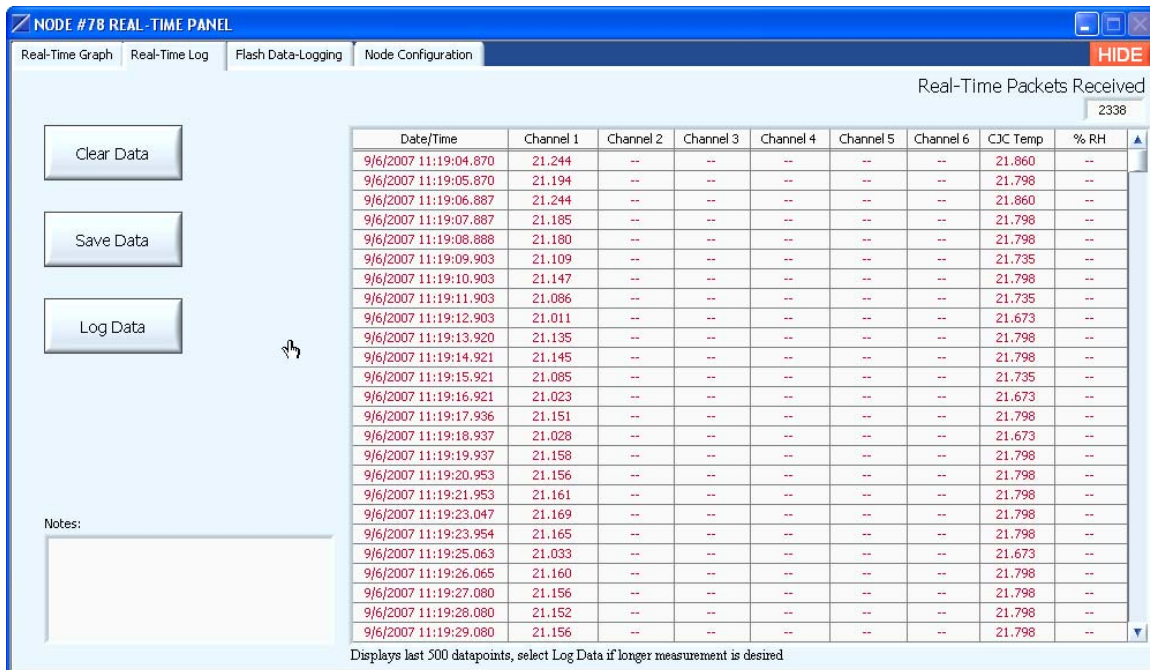

Figure 8
- Click the Real-Time Log tab and the screen in **Figure 8** will appear.